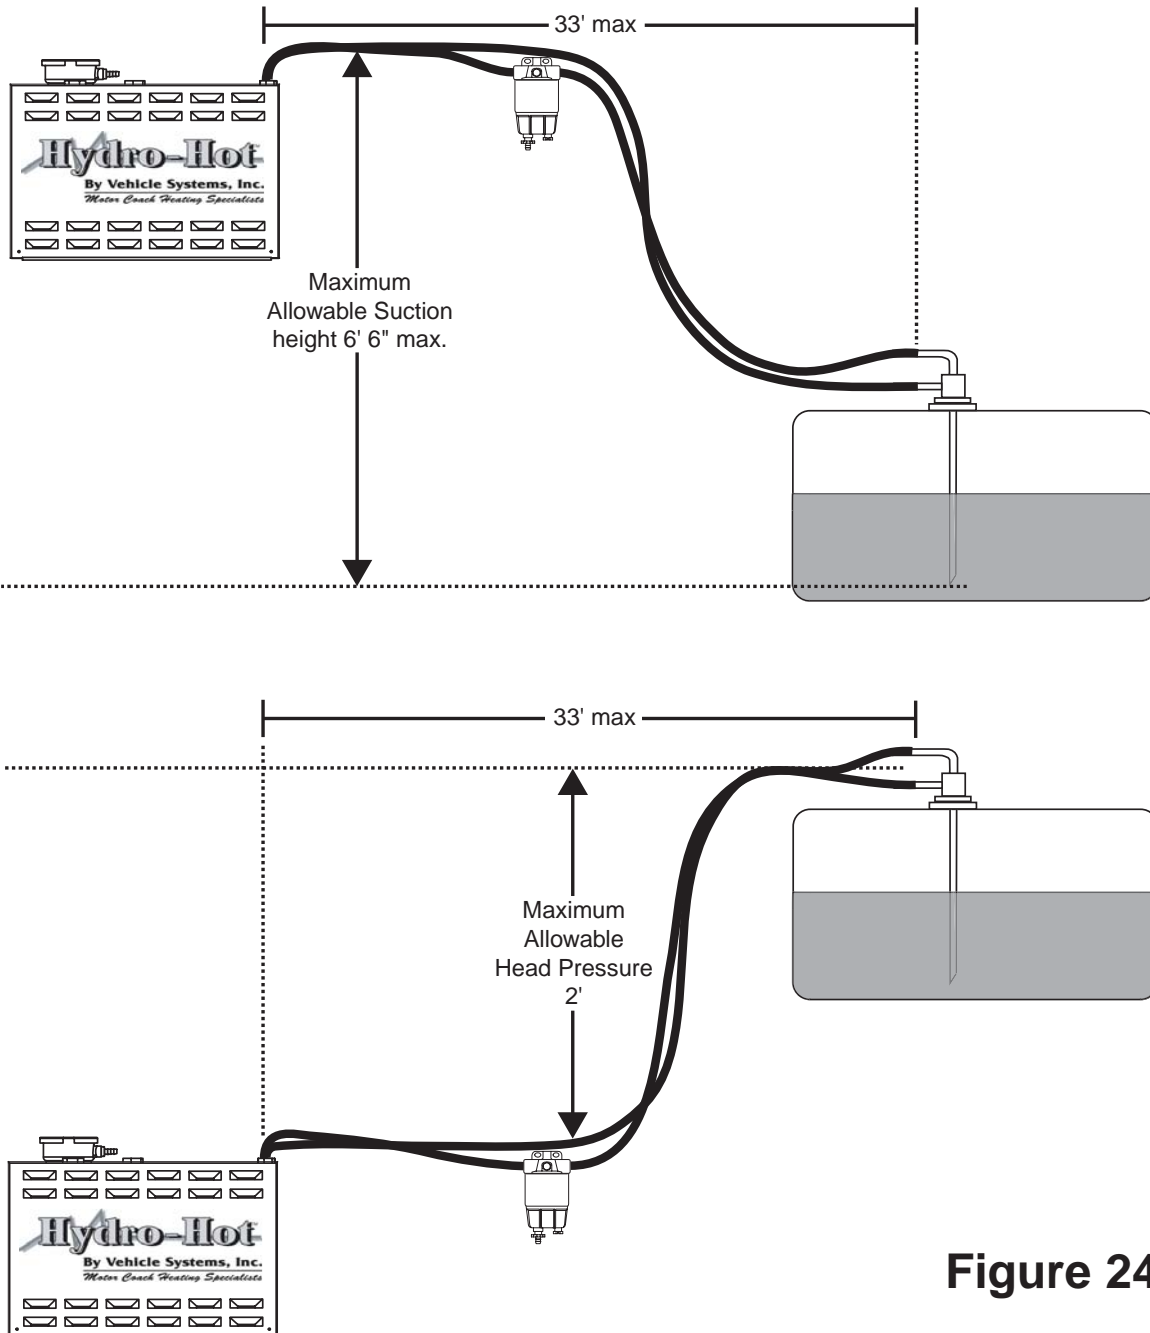

Figure 24
- B. Fuel head pressure should not exceed 2 feet, see Figure 24.